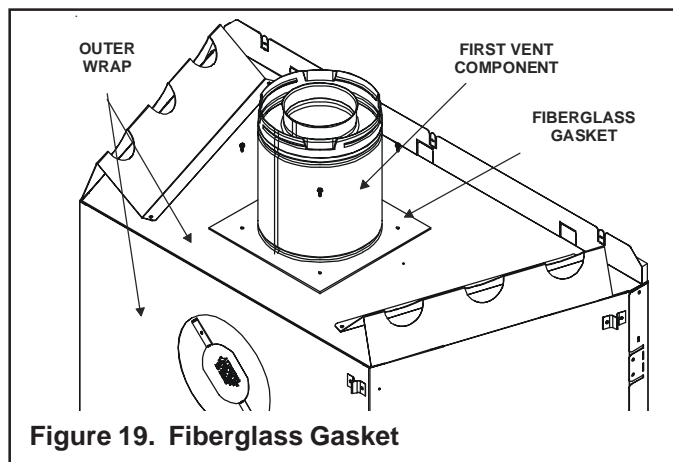

Figure 19. Fiberglass Gasket
- Make sure that the fiberglass gasket supplied in the manual bag seals between the first 8 inch (203mm) vent component and the outer fireplace wrap. Using 2 self-tapping screws from the manual bag secure that gasket to the outer wrap (see Figure 19).